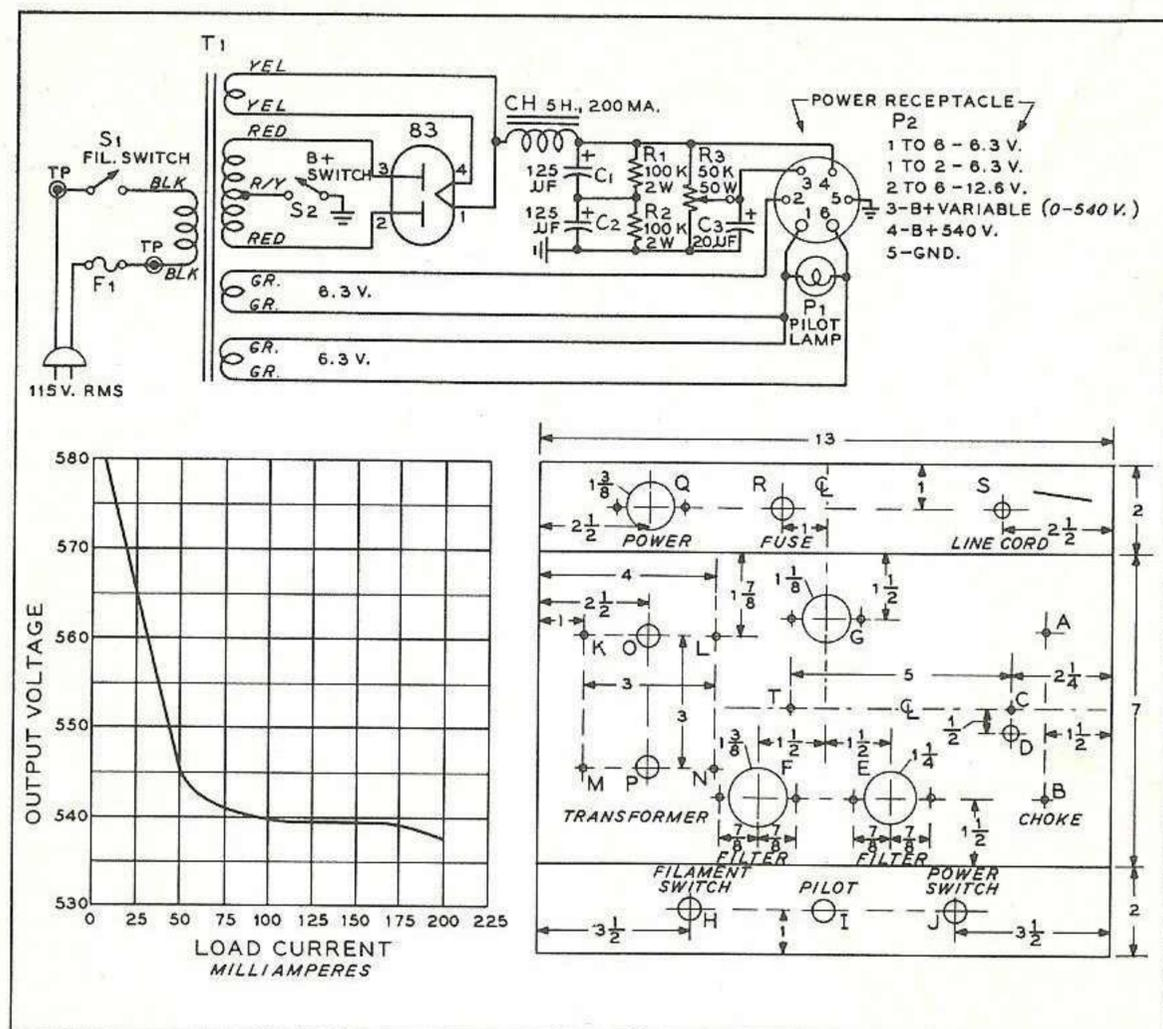

Fig. 11 Schematic, regulation curve, and chassis layout of 500 volt supply.
The schematic diagram of the supply, and the voltage regulation curve are shown in Figure 11, together with a complete parts list. A full wave rectifier circuit is employed, using an 83 mercury vapor rectifier tube, and a single section choke input filter system. Because the output voltage rises to approximately 580 volts with no external load, the inexpensive 450 volt filter capacitors would probably break down after a short time when employed in this fashion. However, two of these capacitors are connected in series in this supply, providing an effective voltage rating of 900 volts. The two series capacitors (C1 and C2) each have a capacity of 125 mf. When series connected, the effective capacity is 62.5 mf. The purpose of the two resistors (R1 and R2) is to equalize the voltage distribution across each of the capacitors.
- ( ) Mark all the holes to be drilled in the chassis on the paper wrapper of the chassis, as shown in Figure 11. Drill the chassis, then remove the paper. Spray the outside of the chassis with a coat of clear Krylon to protect the chassis from smudges and smears.
- ( ) Mount switch (S1) in hole (H), with the terminals towards the top of the chassis. Mount switch (S2) in hole (J), in the same manner. Install the pilot light holder (P1) in hole (I).
- ( ) Mount the fuse holder (F1) in hole (R). Mount the six pin power socket (P2) in hole (Q). Mount the four pin rectifier socket (X1) in hole (G).
- ( ) Mount one of the 125 mf capacitors (C2), in hole (E), using a metal mounting ring.
- ( ) Mount the other 125 mf capacitor (C1) in hole (F), using a fibre mounting ring. Check the four mounting tabs to see that none are touching the chassis. Slide the insulating cardboard case over this capacitor, after placing a drop of cement inside the case to make sure it will not fall off the capacitor.
- ( ) Insert a ⅜" grommet in hole (D). Insert a second ⅜" grommet in hole (S).